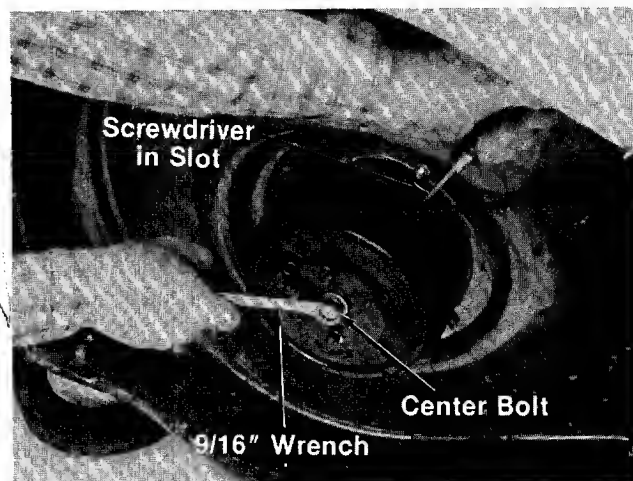

FIGURE 19.
- a. Insert a screwdriver into the slot provided in the blade brake/clutch housing where the control cable enters housing. See figure 19.